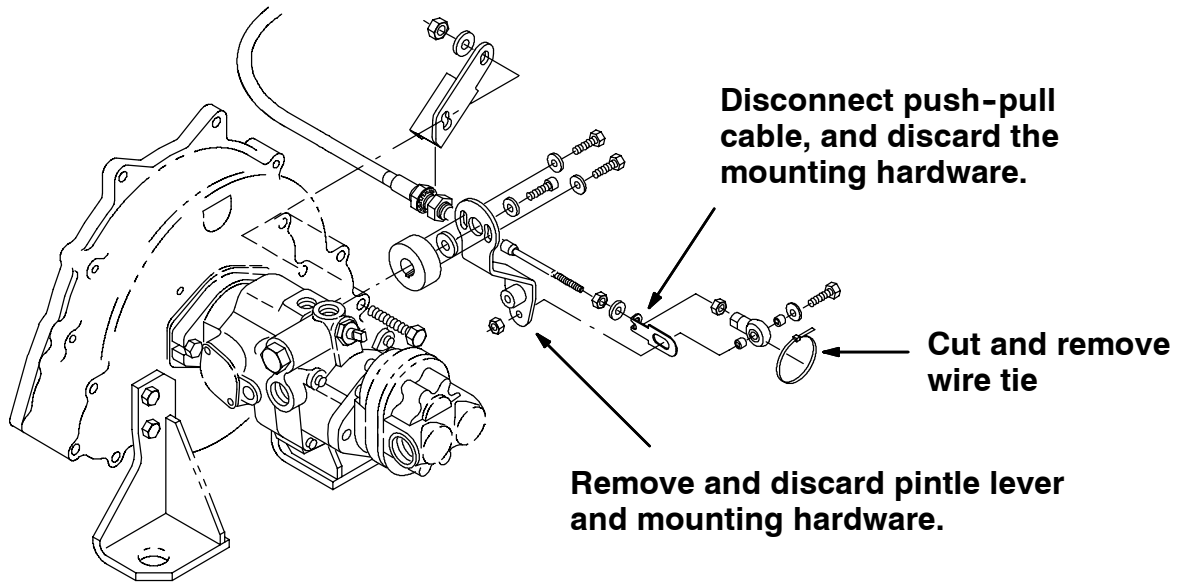

FIG. 2 - DISCONNECT PUSH PULL CABLE
3. Cut and remove the wire tie securing the rod-end and bracket on the end of the push pull cable. (Refer to FIG. 2)
4. Disconnect the push-pull cable from the bottom of the pintle lever. Discard the mounting bolt, spacers, and lock nut. (Refer to FIG. 2)
5. Remove and discard the pintle lever and mounting hardware from the hydraulic propel pump. (Refer to FIG. 2)